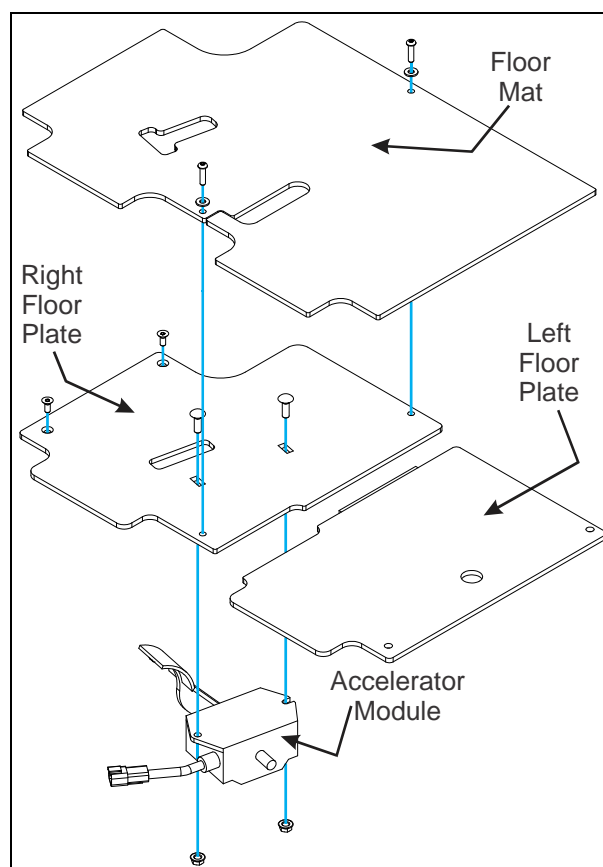

Figure 3-27: Floor Plate
3. Remove the left floor plate from the truck frame. See Figure 3-27.
5. Remove the two round head screws (5/16-18 x 1) and hardware securing the accelerator to the floor panel. See Figure 3-27.
6. Disassemble the accelerator from the floor plate and install the replacement accelerator in its place. See Figure 3-27.